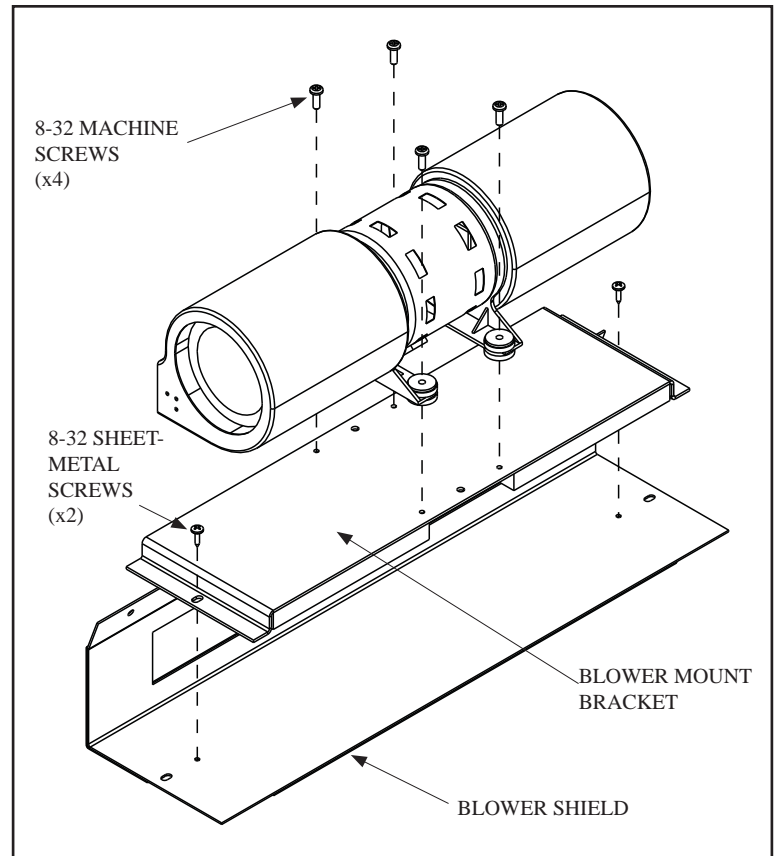

Figure 22.2
6. Using phillips head screwdriver, remove two 8-32 sheet-metal holding the blower mount bracket to the blower shield. **Figure 22.2**